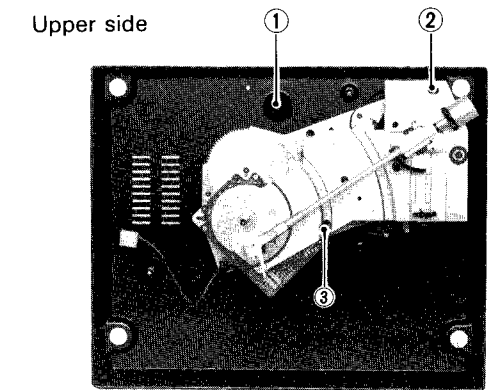

Fig. 14
1. Remove screws ① - ③ as shown in Fig. 14.